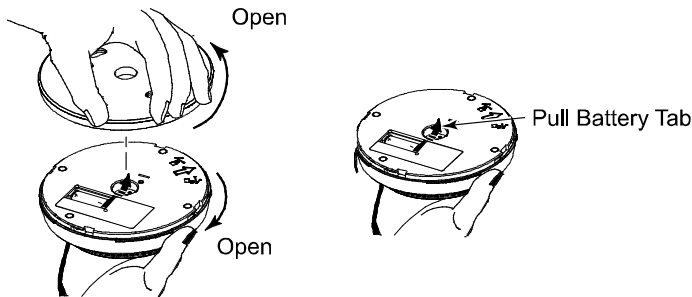

Figure 2. Powering up the 5800COV
1. Remove the detector from its mounting base by twisting the detector counterclockwise. (Refer to Figure 2)
NOTE: Remove battery tab before installation. (Refer to figure 2)